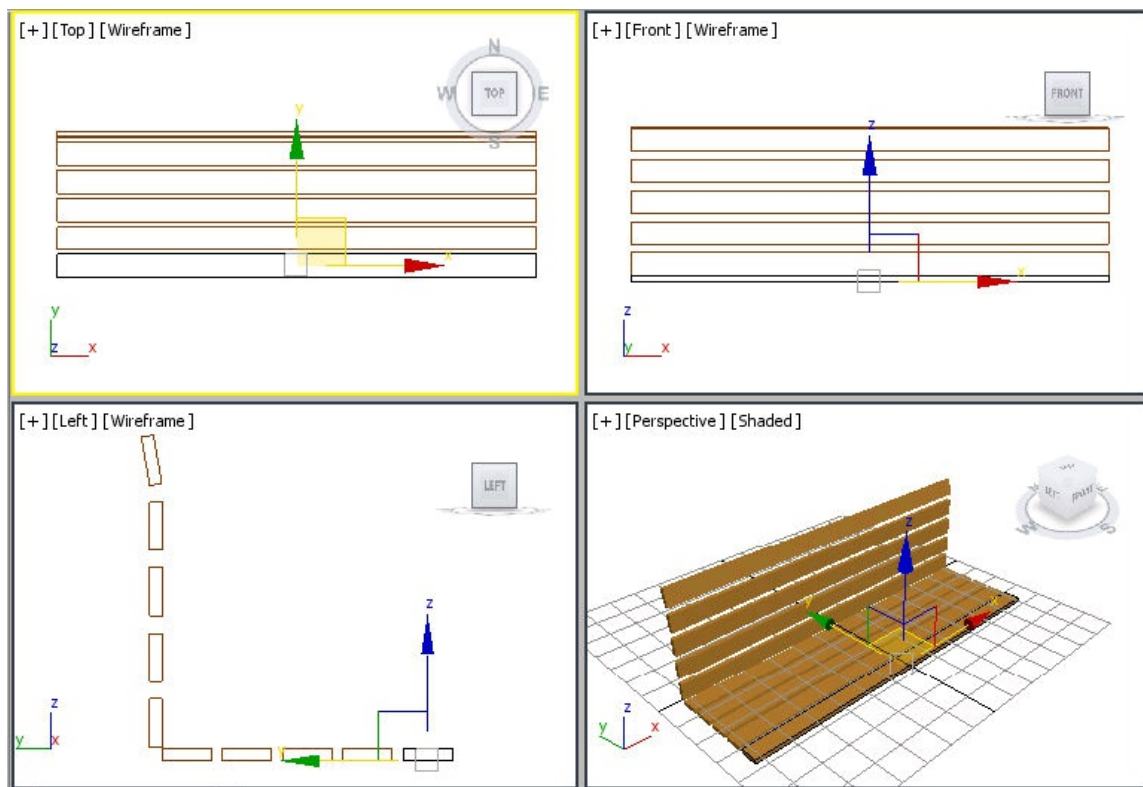

Figure 2-74 Horizontal seat supports displayed in the viewports
9. Choose the **Zoom Extents All** tool; all the objects are displayed in the viewports, as shown in Figure 2-74.